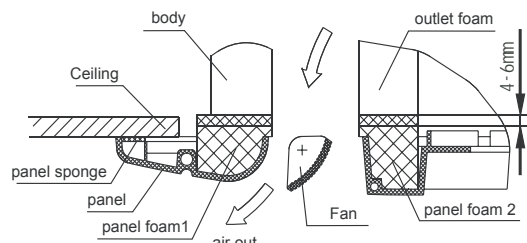

Fig.5-11
- Keep fastening the screws under the panel hooks, until the thickness of the sponge between the body and the panel's outlet has been reduced to about 4~6mm. The edge of the panel should contact with the ceiling well. (Refer to Fig.5-11)